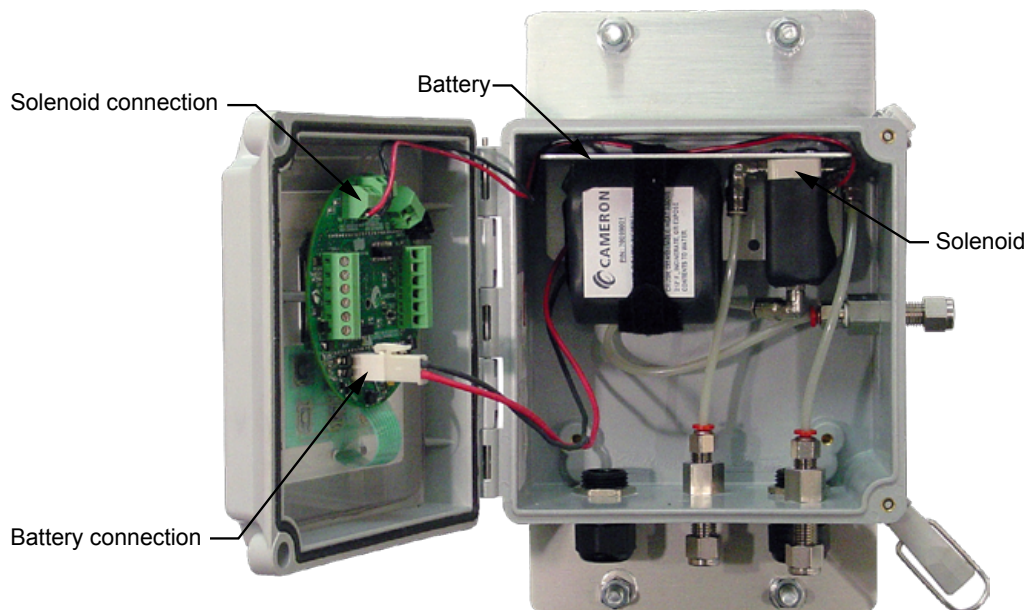

Figure 1.2—True Cut 2000 Sampler Controller, internal view
The controller consists of a weatherproof fiberglass enclosure with a window for viewing a dual LCD and a six-key keypad (Figure 1.1), a solenoid, battery pack and electronic circuitry (Figure 1.2, page 6).
- The 7.2V lithium battery pack, shown in Figure 1.2, provides autonomous power for 15 months or longer when the device is configured for 30-minute sampling intervals. A battery life indicator is built into the controller to provide a reminder when it's time to change the battery.
- A 6V solar panel can be pole-mounted and connected to a 6V rechargeable lead acid battery supplied with the controller. The battery mounts inside the enclosure using the Velcro[®] strap shown in Figure 1.2.
The solenoid, shown in the upper right corner of the enclosure in Figure 1.2, connects to an air supply and to the controller circuit board. When the controller is installed as part of a sampling system, the solenoid is activated by the controller circuit to direct air pressure to a sample pump, initiating the sampling process.